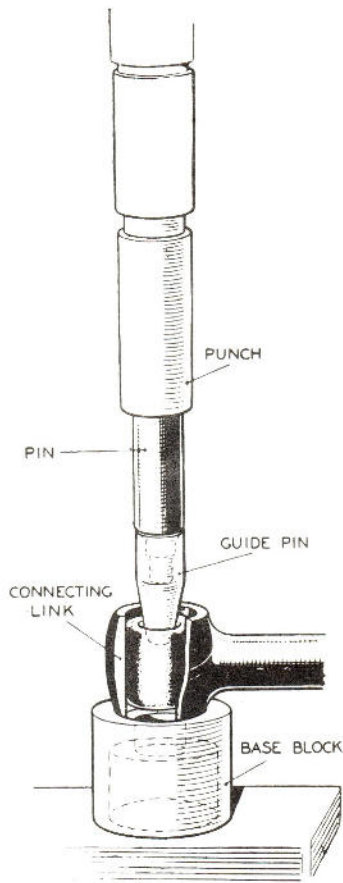

Fig. 82. METHOD OF FITTING PIN
- (1) Place the boss end, with the assembled rubber, in position on the base block. See Fig. 82 below.
- (2) Smear the face of the rubber with petroleum jelly.